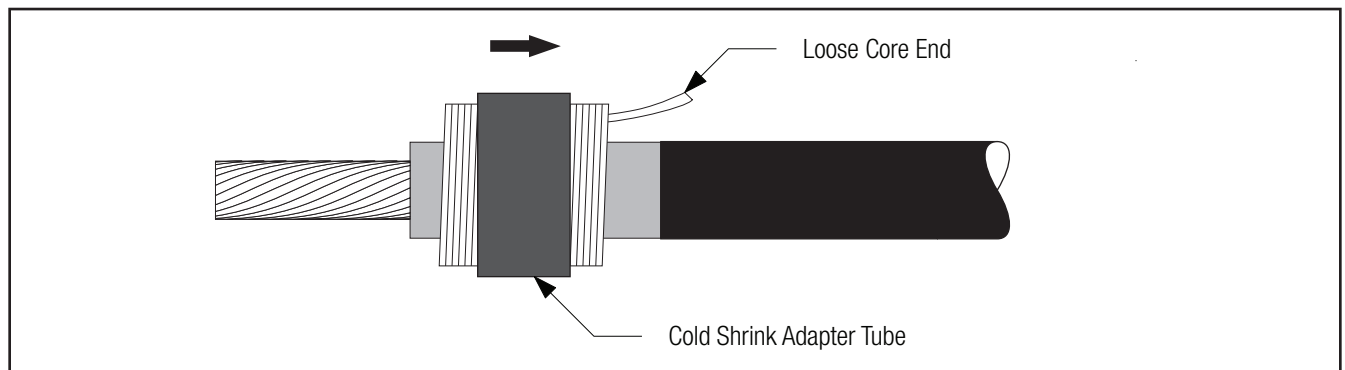

Figure 15
4.4 For 500 kcmil copper connectors, or connectors with an O.D. between 1.05–1.24" (26,7–31,5 mm): Slide the cold shrink adapter tube onto the insulation with the loose core ribbon end going on first, away from the cable end (Figure 15).